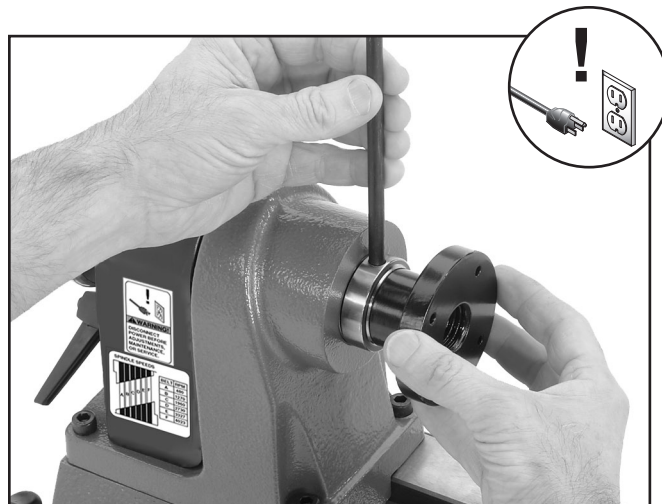

Figure 15. Tightening faceplate.
4. Using the knock-out bar, hand tighten the faceplate as shown in **Figure 15**.